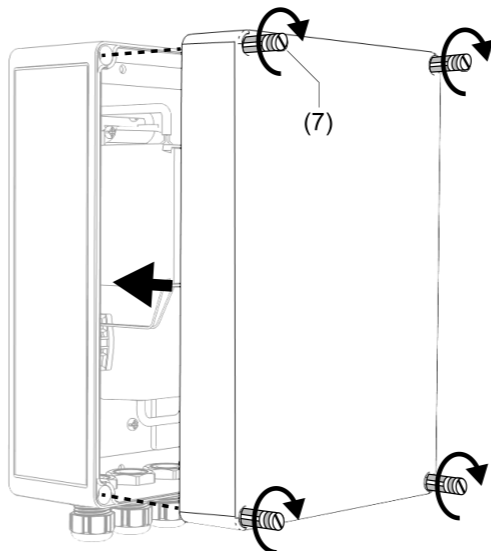

Figure 6: Mount the cover
- Place the cover on the housing and attach it with the enclosed cover screws (7) (Figure 6).
-  Unused cable glands must be provided with the pre-installed sealing plugs (8)!